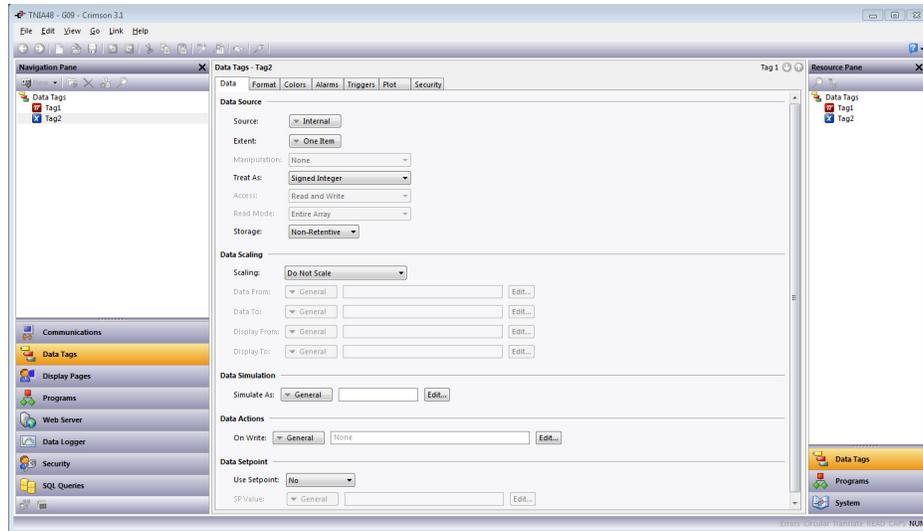

Figure 16.
1. Referring to Figure 16, navigate to the Data Tags section.